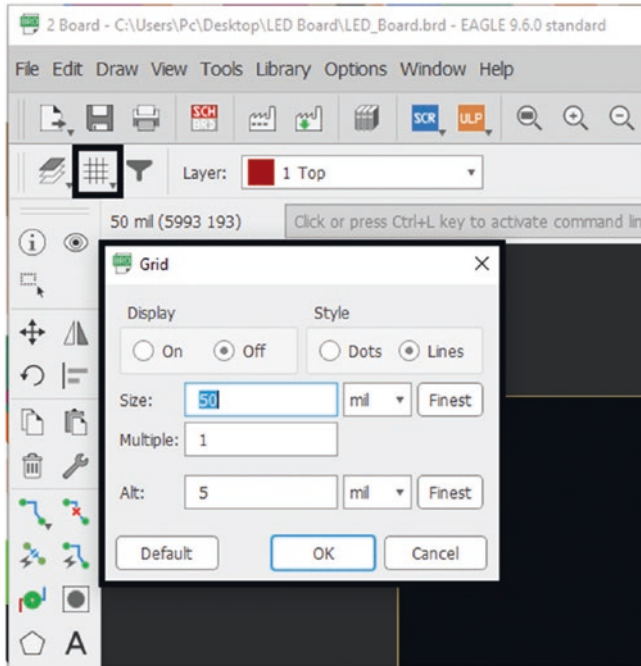

Figure 5-53. Make sure the grid is the same
2. Click the Grid button and make sure it looks like Figure 5-53.